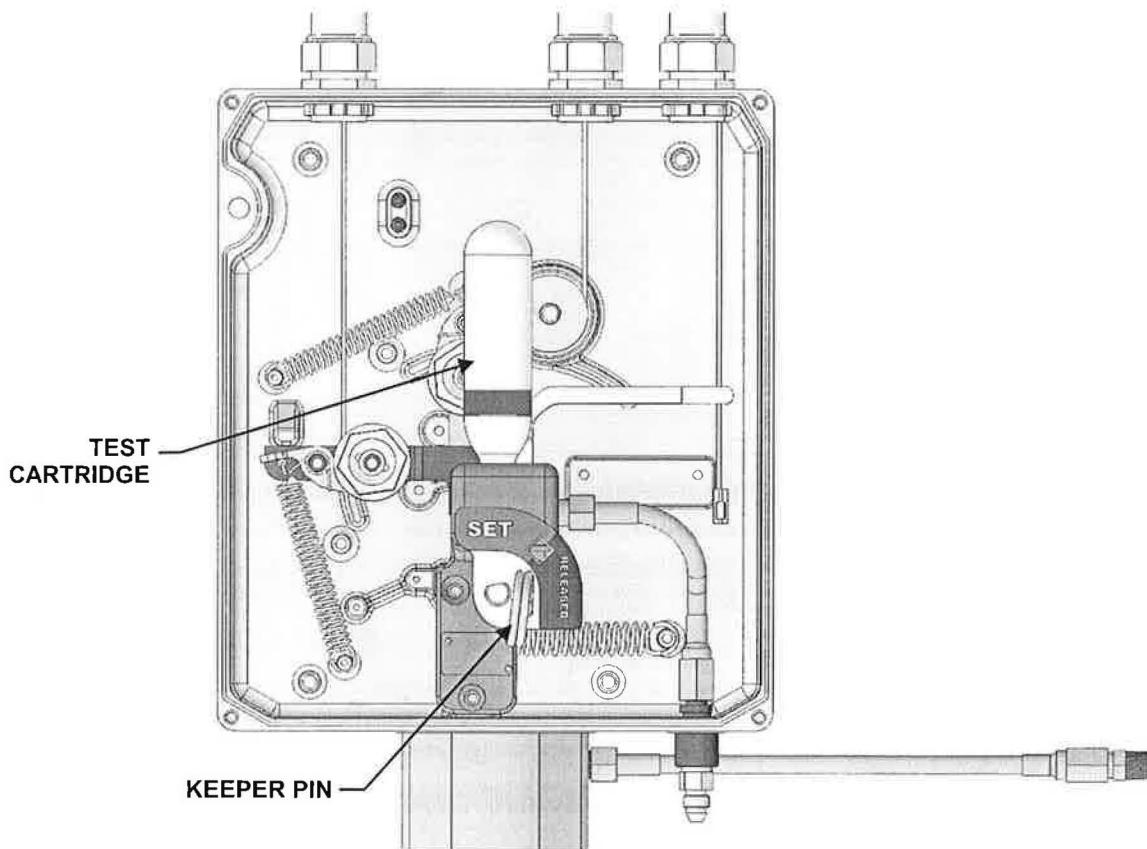

Figure 4-89. UCH Control System, Test Cartridge Placement
1. After ensuring that the system is in the 'Set' position and the Keeper Pin is in place, locate the Test Cartridge (P/N B120044). Carefully install the cartridge into the valve assembly of the UCH Control System. Tighten until cartridge is snug (see Figure 4-89). It is permissible to perform this test with the System Cartridge.